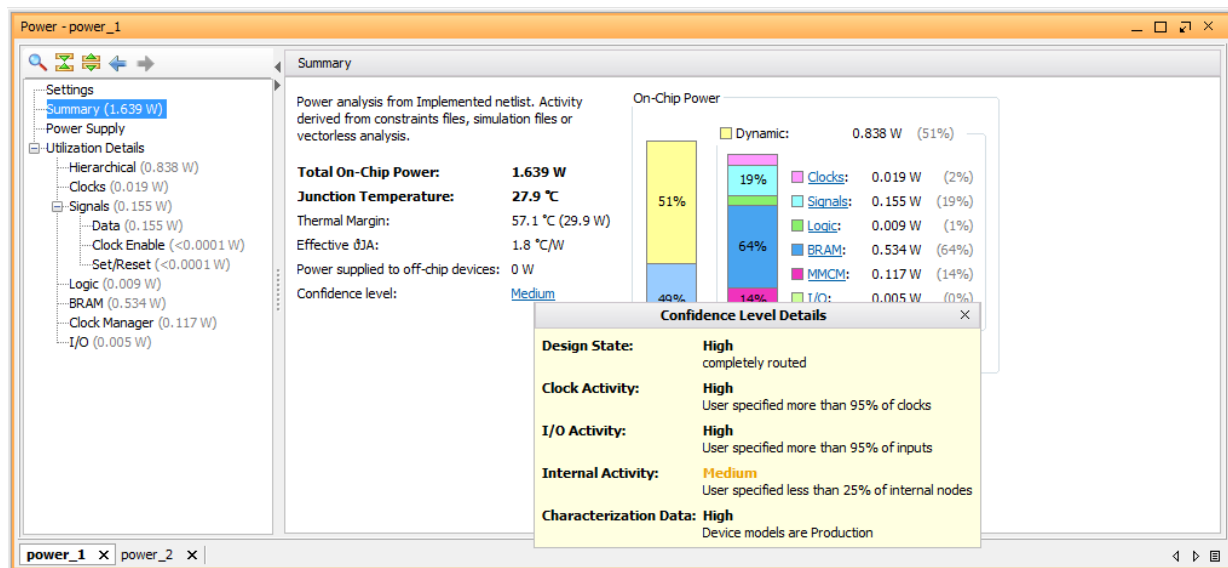

Figure 38: Confidence Level for Vectorless Power Analysis (power_1)
- In the **Summary** view of the **power_1** report (the report generated by the vectorless analysis), click on the **Confidence level (Medium)** in Figure 38.